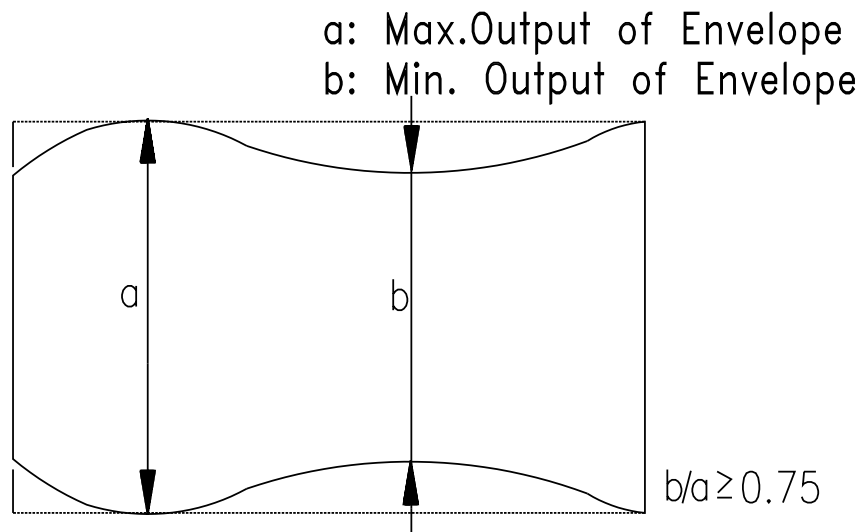

Fig. 5-7 LINEARITY ADJUSTMENT
- f. Adjust the S/T GUIDE ROLLER until the envelope signal waveforms of the entrance and exit sides are as shown in Fig. 5-7.